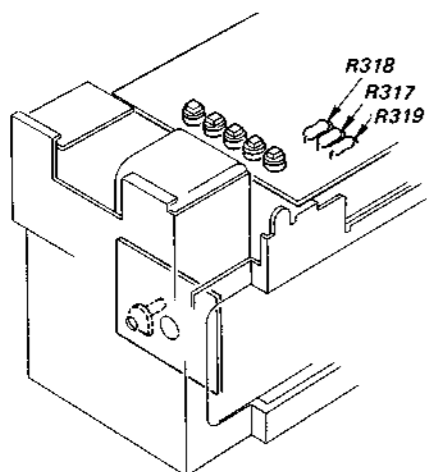

Fig. 3-2.
- 6) Disconnect one leads of R318 and R319 on A board. (Fig. 3-2)